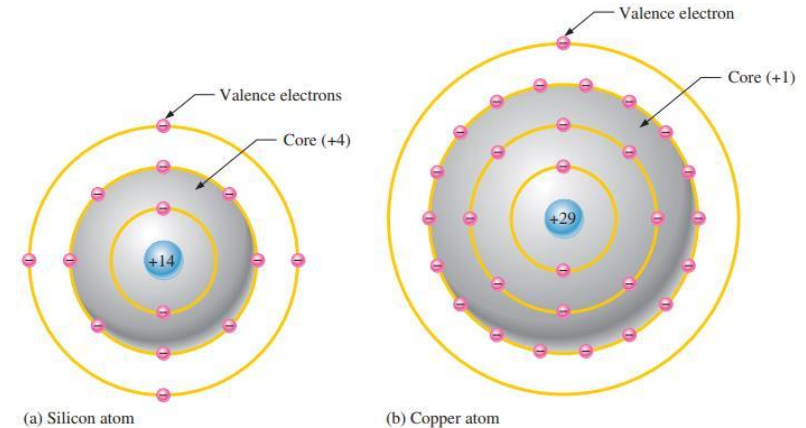

Fig 1.8 — Bohr diagrams of the silicon and copper atoms
- Their Bohr diagrams are shown in Fig 1.8 (right)